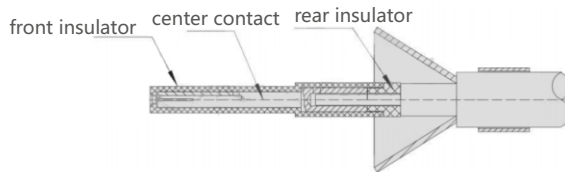

Figure 1.5
- ⑤ Then, install the front insulator onto the center contact as shown in Figure 1.5, with the tail of the front insulator abutted against the stepped part of the rear insulator.